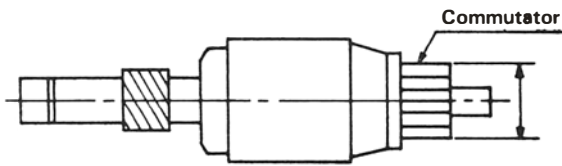

Figure 24
7. Measure the diameter of the commutator, Figure 24. If it does not meet the specified limit page 63, install a new armature.